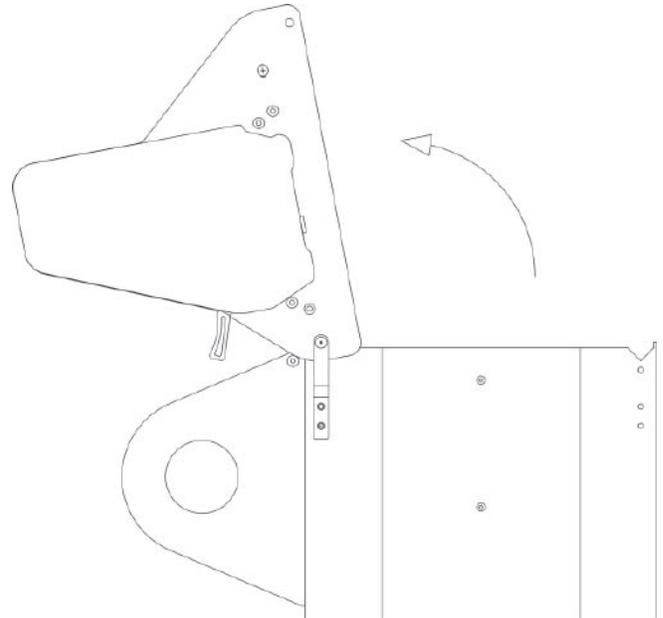

Fig. 4
2. Lift the plotter forward, rotating it from the back until it rests on the front resting screws. See Fig. 4